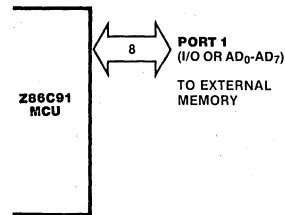

Figure 8. Port 1
**Port 1** is a dedicated Z-BUS® compatible memory interface. The operations of Port 1 are supported by the Address Strobe ( $\overline{AS}$ ) and Data Strobe ( $\overline{DS}$ ) lines, and by the Read/Write (R/W) and Data Memory ( $\overline{DM}$ ) control lines. The low-order program and data memory addresses ( $A_0$ - $A_7$ ) are output through Port 1 (Figure 8) and are multiplexed with data in/out ( $D_0$ - $D_7$ ). Instruction fetch and data memory read/write operations are done through this port.